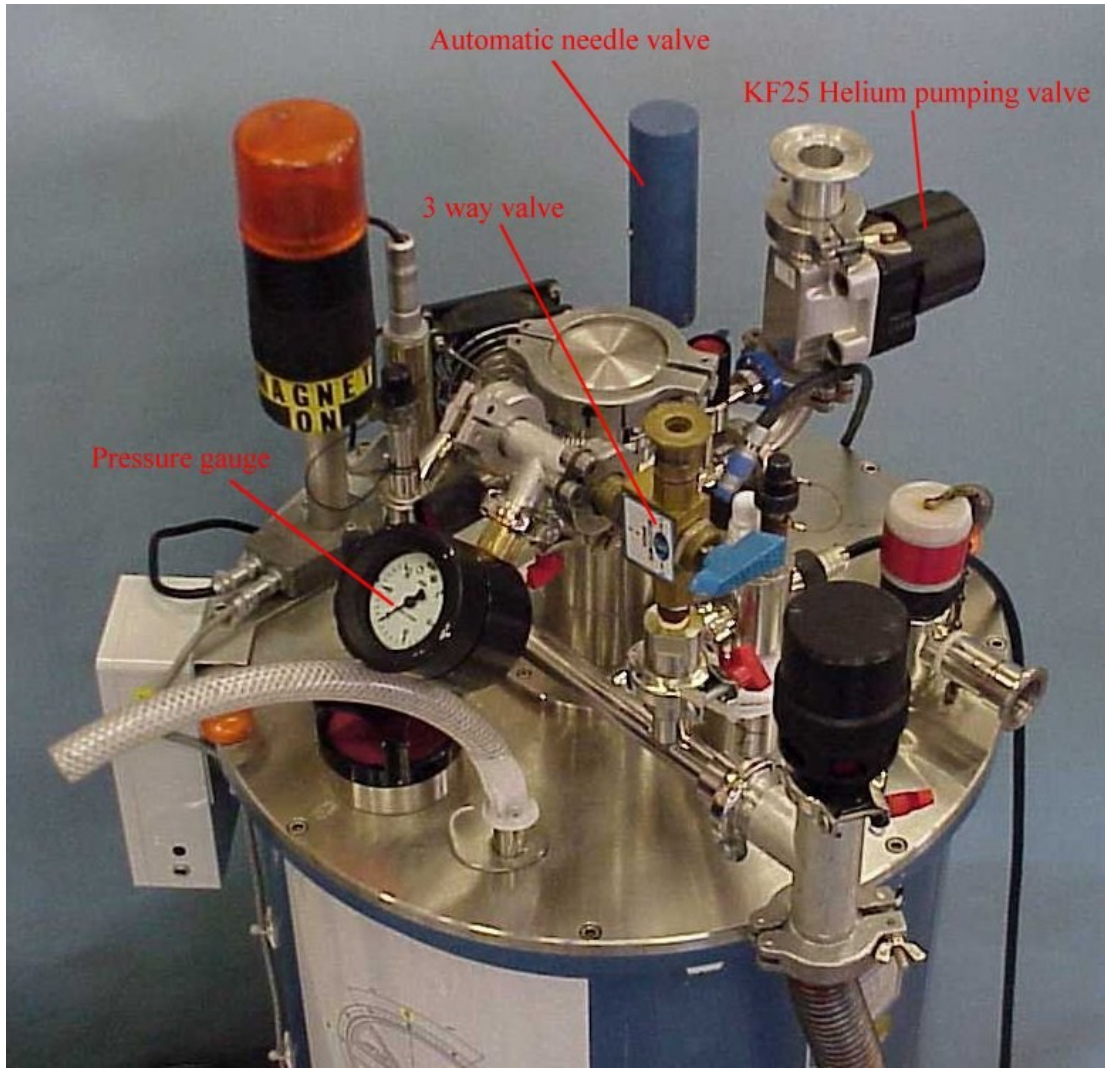

Fig 1a
1. Connect the KF10 flexible from the SE XDS 10 Support Pump (Fig 1a) to the blue 3 way valve on the cryomagnet top flange (Fig 2); ensure that a helium gas supply is connected to the pumps gas valve.
2. If not already connected, connect the SE XDS 10 Support Pump (Fig 1a) to top of blue Hoke valve and start the pump to evacuate the line, ensure that a helium gas supply is connected to the pumps gas valve.